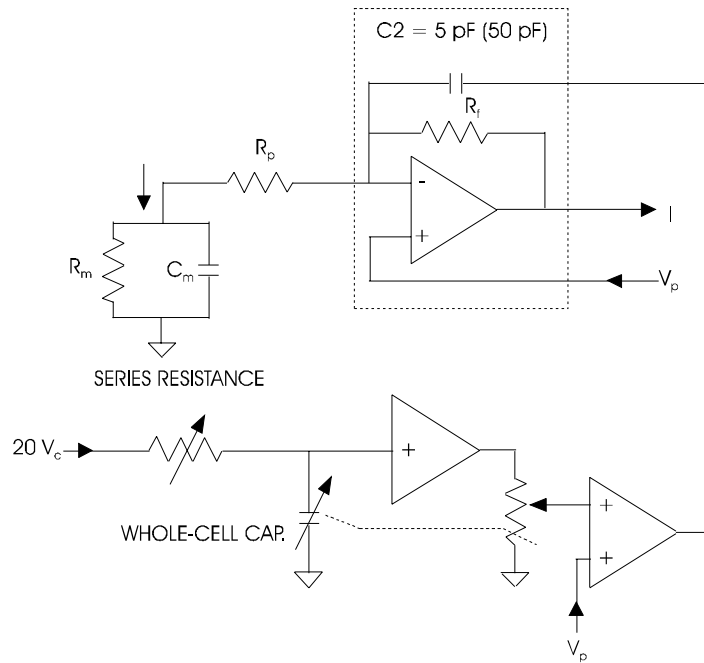

Figure 19. Whole-cell capacitance compensation circuit.
The SERIES RESISTANCE and WHOLE-CELL CAP. controls are used to charge the membrane capacitance (C_m). Figure 19 is a simplified circuit of these controls.
- 1) **WHOLE-CELL PARAMETERS:** WHOLE CELL CAP. potentiometer and its ON/OFF switch, and SERIES RESISTANCE potentiometer. These controls are used to cancel the whole-cell capacity transient. Their action is coordinated with series resistance compensation controls described below. Note that the WHOLE CELL CAP. switch must be ON to cancel whole-cell capacity transients. Turning this switch OFF disables the signal injected through the C2 capacitor in the headstage used to cancel the capacity transient (Figure 19); it also disables the PREDICTION potentiometer (see below). With the switch ON (for now assume that PREDICTION is OFF), the signal injected through C2 capacitor has an amplitude that is determined by the setting of the WHOLE CELL CAP. control and a time constant that is determined by the setting of both the WHOLE CELL CAP. and SERIES RESISTANCE controls. Precise canceling the whole-cell capacity transient with these controls requires a unique setting in each case. These settings are accurate representations of R_s and C_m to within 2-3%. As will be described below, the use of PREDICTION will modify the time course of the signal applied to the capacitor C2.